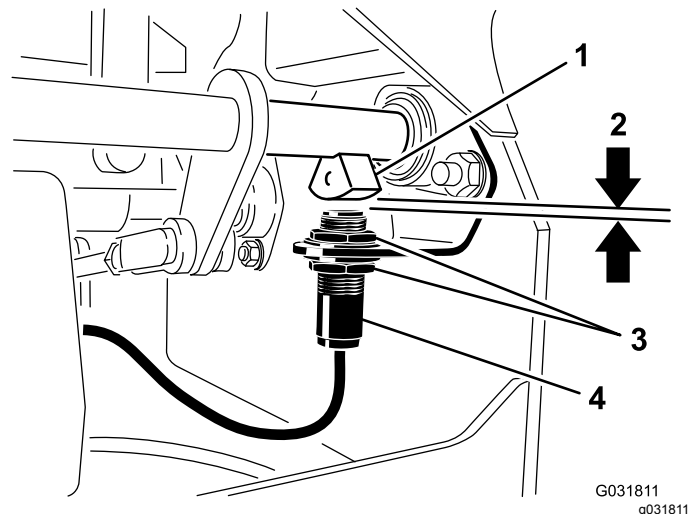

Figure 80
4. Move the switch up or down on the bracket until the distance between the brake-shaft sensor and the switch plunger is 4 mm (5/32 inch) as shown in Figure 80.